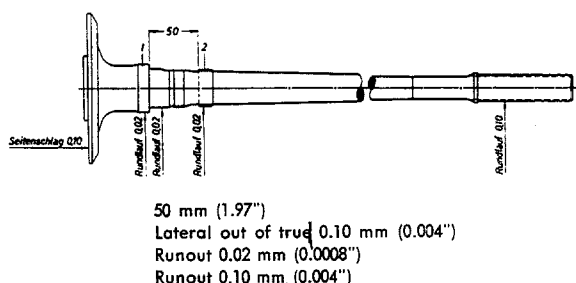

Fig. H 3a/28
28. If the rear axle shaft centering hole has been damaged on account of unskilled handling, it must be reground on a center grinding machine (Fig. H 3a/28a). Then check shaft for true run (Fig. H 3a/28b); if necessary, straighten shaft and recondition flange. Be careful not to alter the diameter of the brake drum recess (66.954 to 67.000 mm = 2.63598 to 2.63779").